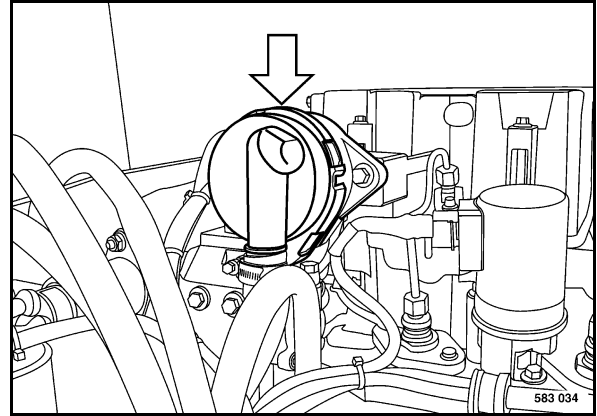

Fig. 181
- Replace the crank case ventilation valve (Fig. 181).